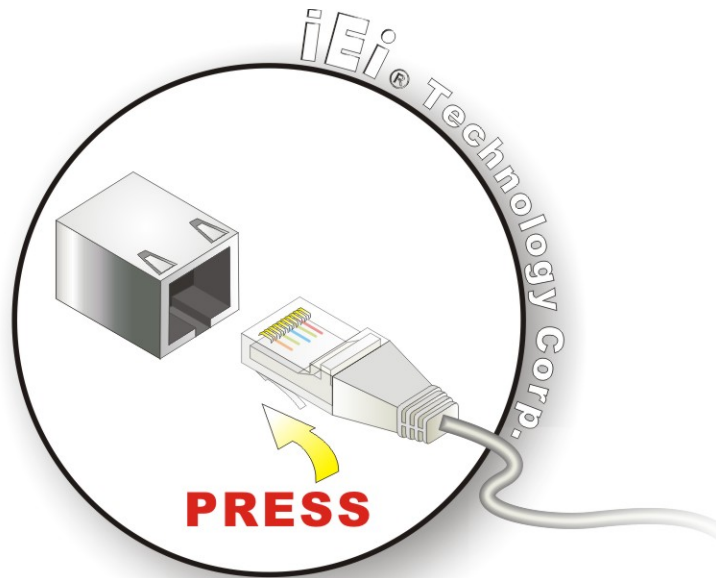

Figure 2-20: LAN Connection
Step 2: **Align the connector.** Align the RJ-45 connector on the LAN cable with one of the RJ-45 connectors on the bottom panel of the AFL-W10A-N270. See **Figure 2-20**.